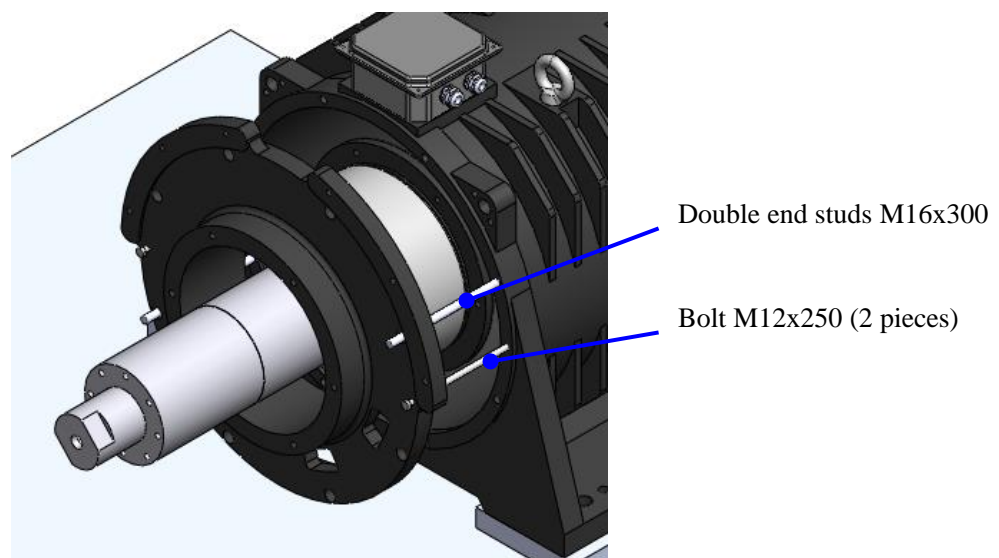

Figure 141: Separate the front cover
6. Use a pair of double end studs M16x300 tightened into the threaded holes in the machine body. Screw the bolts M12x250 into the M12 hole of Front cover opposite each other. Tighten the bolts M12x250 (2 pieces) evenly and slowly with end wrench (18mm) until the Front cover separates from the bearing. See Figure 141.